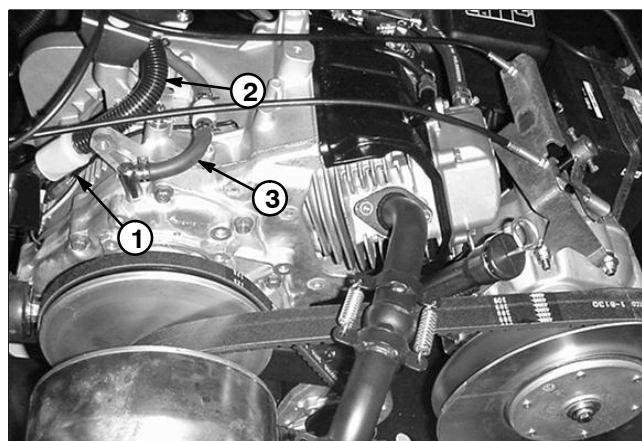

Figure 10
3. Place a clean container under fuel filter (Fig. 10).